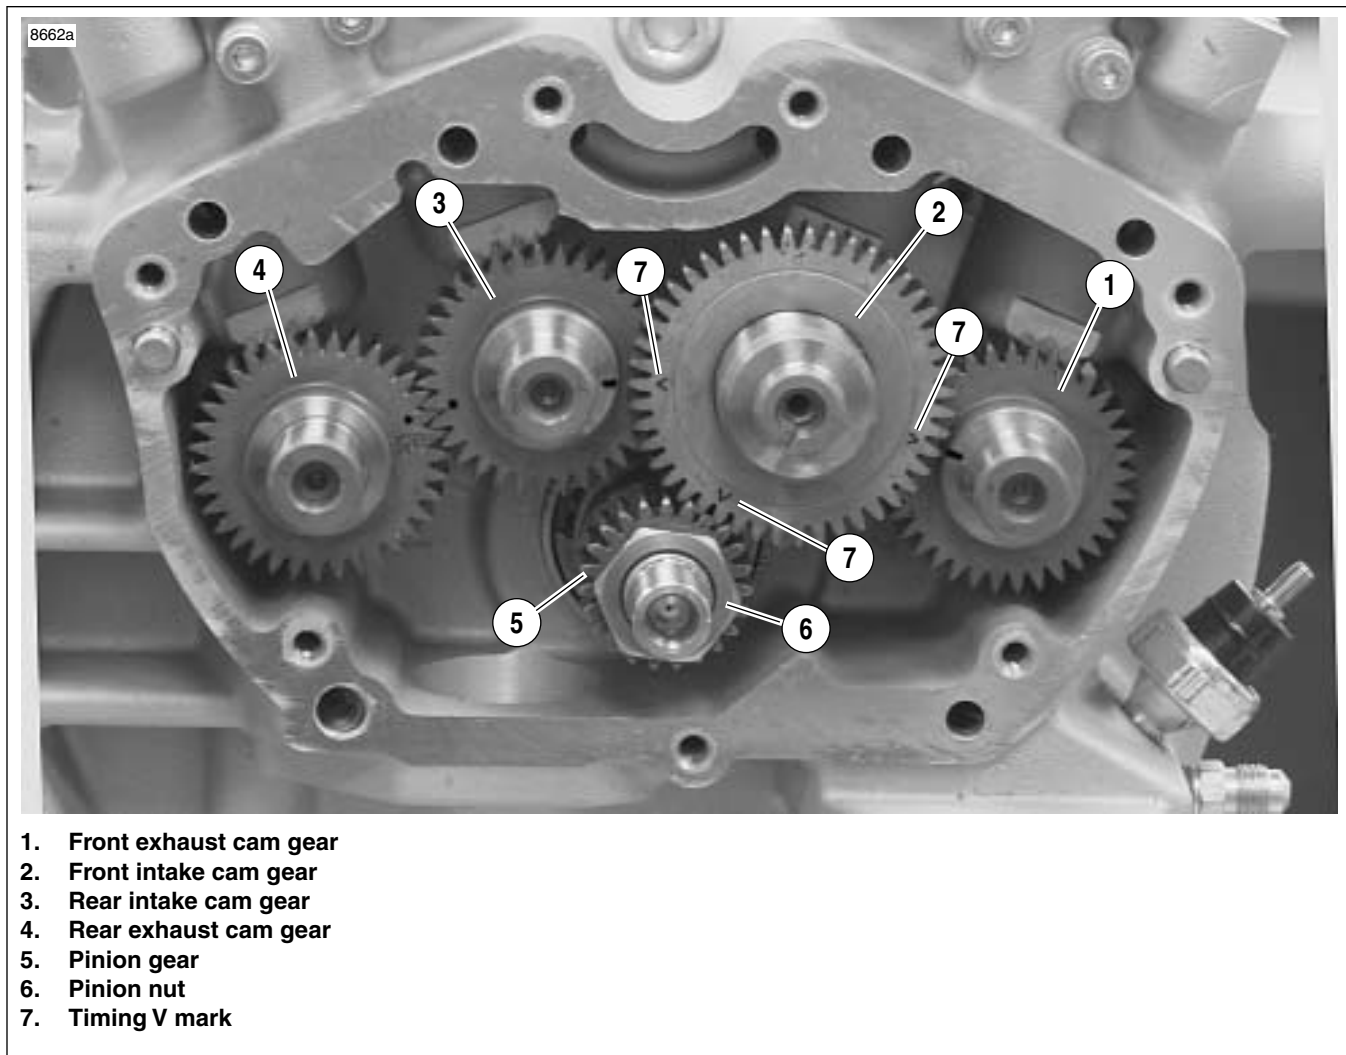

Figure 3-129. Cam and Pinion Gear Location and Timing Mark Indexing
8. See Figure 3-129. Remove cam gears (1, 2, 3 & 4).
See Figure 3-129. The timing marks are located on the front intake cam assembly (2). Note the "V" marks.